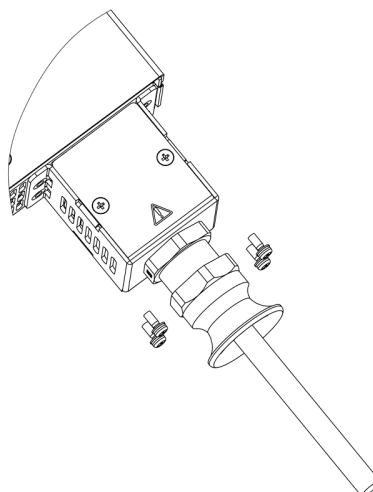

Figure 7-6: Strain Relief Bracket Assembled to Power Source Rear Panel
10. Fix the strain relief bracket assembly to the rear panel with four SEMS screws as shown in **Figure 7-6** using a tightening torque of 4.7–5.7 Lbf-inch (0.53–0.64Nm).